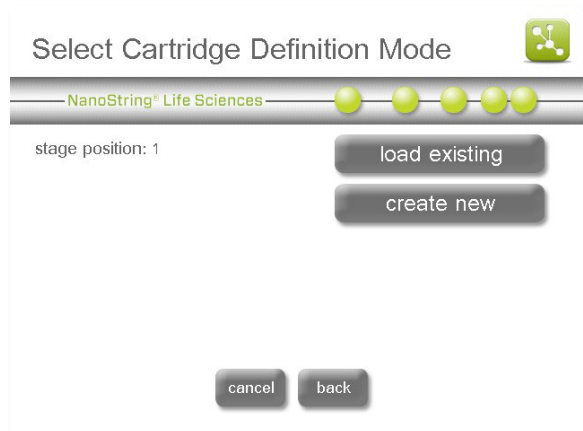

Figure 85: The 'Select Cartridge Definition Mode' screen.
3. The 'Select Cartridge Definition Mode' screen will appear (Figure 85).